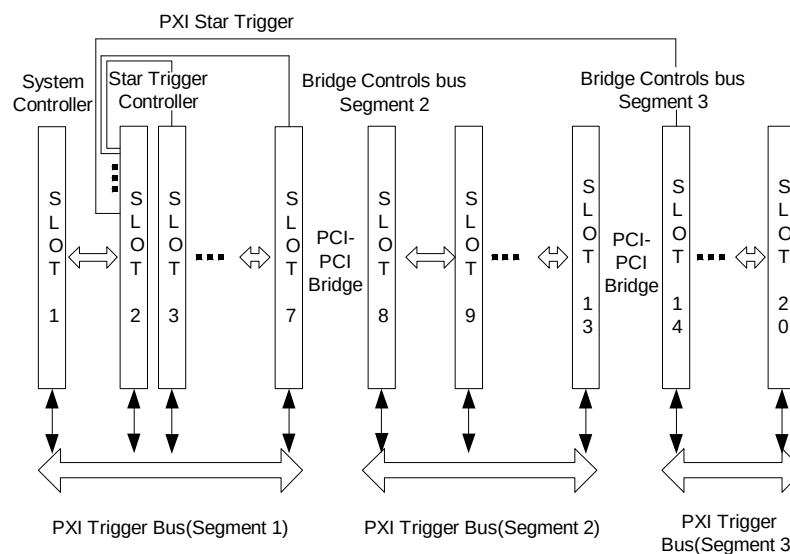

Figure 2-10: PXI Trigger Architecture
Slot 2 is the Star Trigger (ST) Controller slot (2nd from the left). This slot has a dedicated trigger line going to slots 3 through 15. The Star Trigger is used to synchronize between 14 instruments and it utilizes back plane traces that are of equal length, providing for a skew of less than 1nSec between slots. If you do not need a Star Trigger Controller, any PXI or cPCI instrument can be used in this slot. See Figure 2-10 in this chapter for more information about the available trigger architectures.
The PXI trigger bus provides connectivity only within a single bus segment and does not allow physical connection to an adjacent bus segment. This maintains the high performance characteristics of the trigger bus and allows the GX7300 to partition instruments into logical groups as show in Figure 2-10. However, logical connections of the trigger bus are allowed. The GX7300 can be configured programmatically enable any of the trigger lines between the segments and set direction.